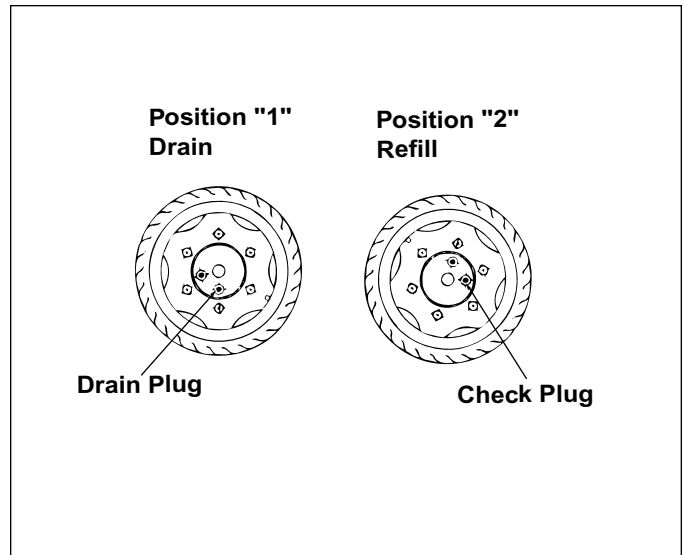

Figure 4-16 Changing Final Drive Oil
1. Position the machine on a level surface with wheel drain plug positioned as shown in POSITION 1, Figure 4-16. Turn off the engine.
3. Start the engine and move the machine slightly until check plug is positioned as shown in POSITION 2, Figure 4-16. Turn off the engine.